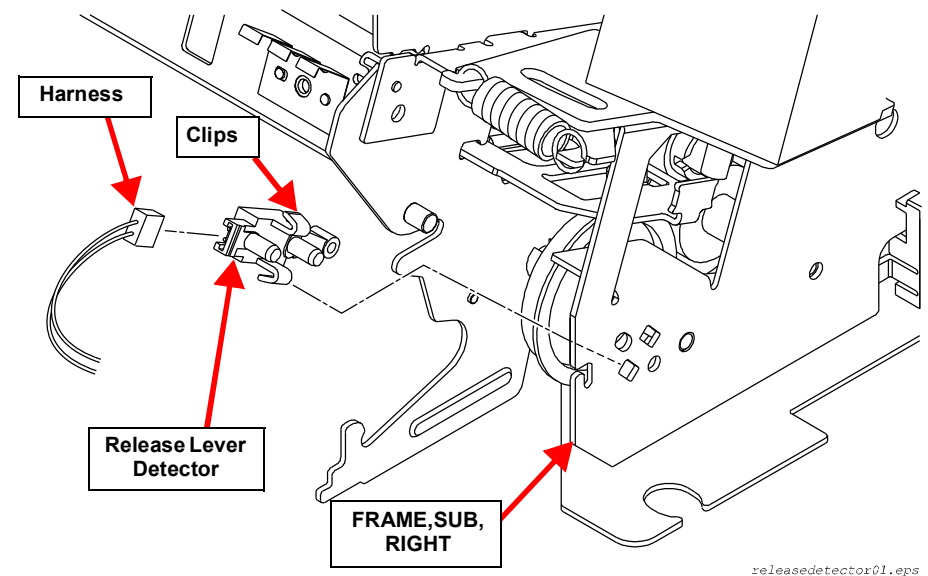

Figure 4-23. Release Detector Removal
2. Release the 2 clips attaching the Release detector to the FRAME,SUB,RIGHT in the Printer Mechanism, and remove the detector. (See Figure 4-23)